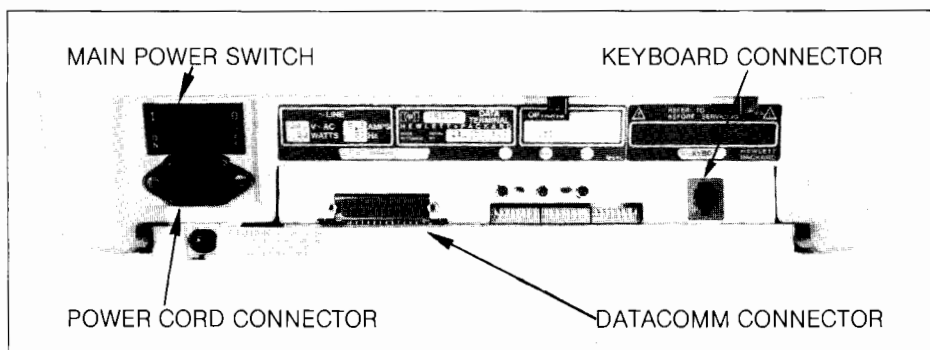

Figure 2-3. 2621B Power Switch and Connector Positions Rear Panel
Step 2. Plug the keyboard cable connector into the socket labeled KYBD on the terminal's rear panel (see Figure 2-3).
Step 4. Set the main power switch on the terminal's rear panel (see Figure 2-3) to the OFF position.
Step 1. When the installation of your terminal is completed, set the main power switch on the rear panel (see Figure 2-3) to the ON position.